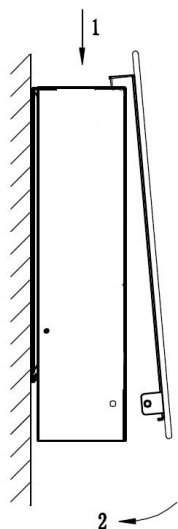

Figure 6
Step 7: Fit the appliance front fascia by locating the two tabs into the slots on top of the electric fire as shown below . (Figure 6)